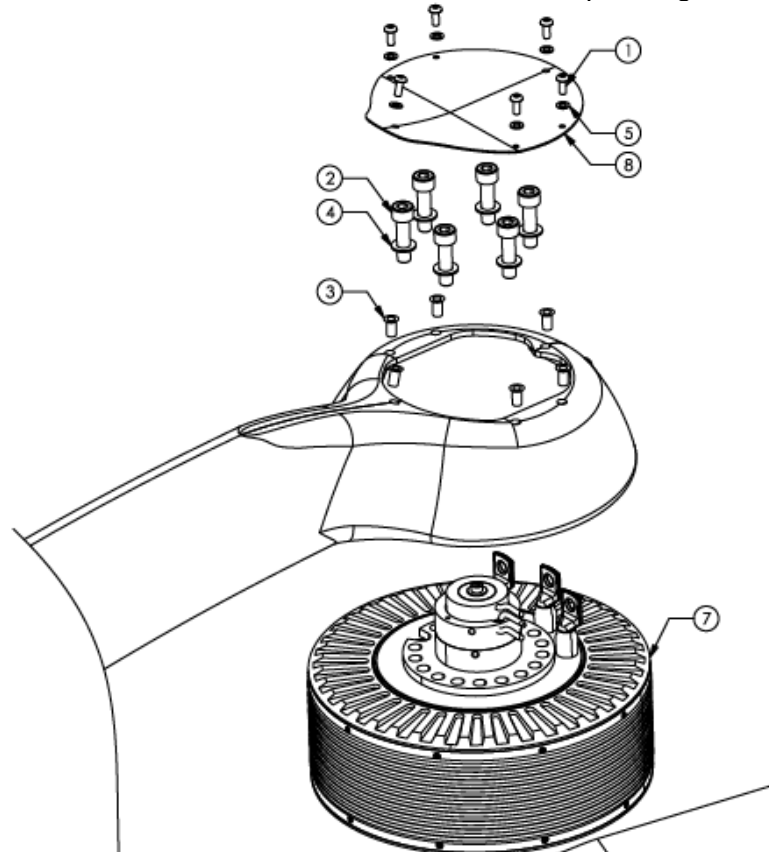

Figure 1 - EMRAX 208 to Pylon attachment
Motor Bolt Torque Specification (refer to Figure 1)
2. Loosen and remove, depending on the specific aircraft, either (a) the six M4 AB10 (Item 1, Figure 1) button-head screws, or (b) the six re-usable plastic expansion fasteners securing the rear cover plate to the pylon (Item 8, Figure 1)